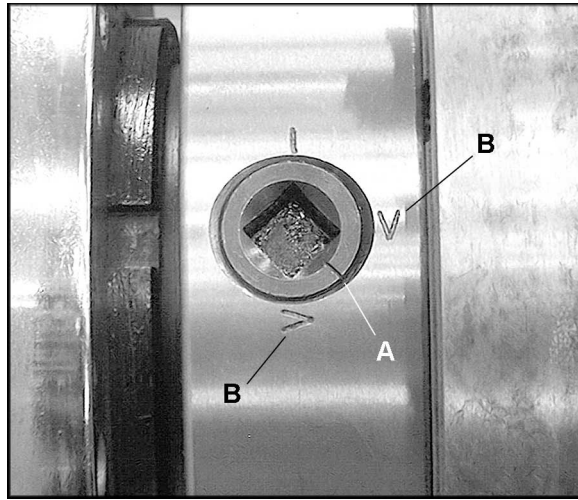

Figure 3
5. Lift the chuck up to the spindle nose and press onto the spindle. Tighten in place by turning the camlocks 1/4 turn clockwise. The index mark (A, Figure 3) on the camlock should be between the two indicator arrows when tight (B, Figure 3). If the index mark is not between the two arrows, remove the chuck and adjust the camlock studs by either turning out one full turn (if cams will not engage) or turning in one full turn (if cams turn beyond indicator marks.)